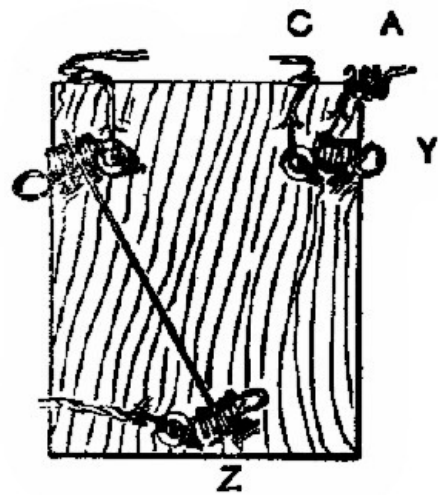

Fig. 22.
**53. Cut-Out.** Fig. 22. Details. *X*, *Y*, and *Z* represent 3 binding-posts like App. 42. These are fastened to a wooden base that is about  $3 \times 5 \times \frac{3}{4}$ . The ends of the wires shown come from and go to the other pieces of apparatus. *Q* shows a stout wire or strip of 2 or 3 thicknesses of tin. Suppose we have an apparatus, as, for example, an electric bell, which we want to have ring when someone at a distance desires to call us. If we use a telephone or telegraph instrument we shall want to cut the bell out of the circuit as soon as we hear the call and are ready to talk.
Suppose the current comes to us through the wire, *A*, Fig. 22. It can pass by the wire, *C*, through the bell and back to *X*. If we wanted simply to have the bell ring, the current could pass directly from *X* into the earth, or over a return wire back to the push-button at our friend's house. If, however, we are to use some other instrument, by lifting the end of *Q* out of *X* and pushing it into *Y*, the bell will be cut out, and the current can pass on wherever we need it.